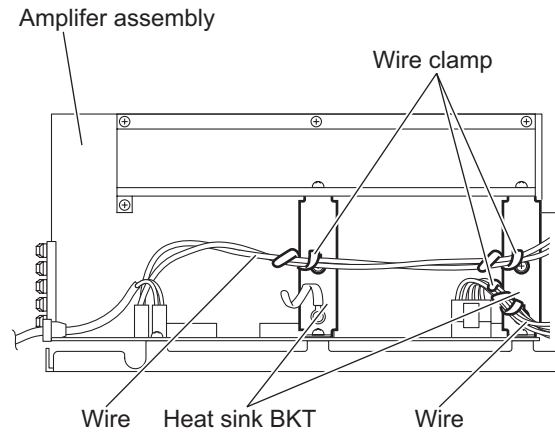

Fig.6
### 3.4.4 Removing the heat sink BKT (See Figs.6 and 7)
- (1) From the left side of the amplifier assembly, remove the wires from the wire clamp on the heat sink BKT. (See Fig.6)
After attaching the heat sink BKT, bundle the wire by the wire clamp. (See Fig.6)